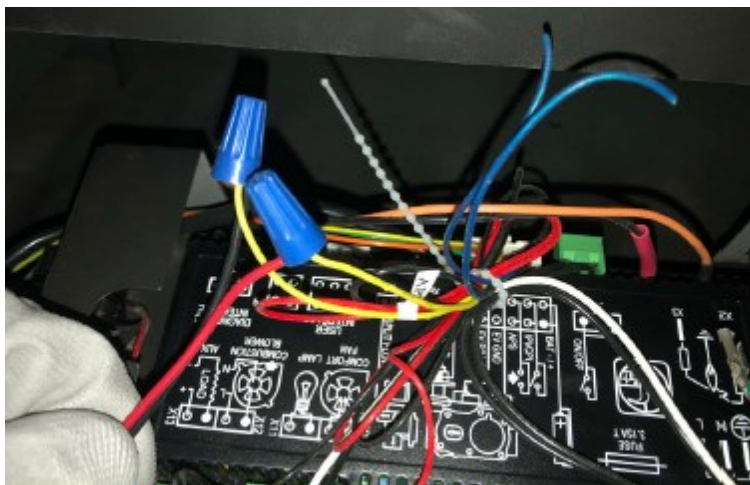

Figure 6.18 - APS Wire Nuts
6. Locate the yellow looped "APS" wire on the control module wire harness. Cut this looped wire for two individual yellow wires. Strip back approximately 1/2" of the end of each wire. Using the (2) provided blue wire nuts, twist one of the yellow APS wires into the brown wire coming from the vacuum switch in the power vent assembly. Use the second blue wire nut to twist the second yellow APS wire to the red wire coming from the vacuum switch as shown in Figure 6.18.